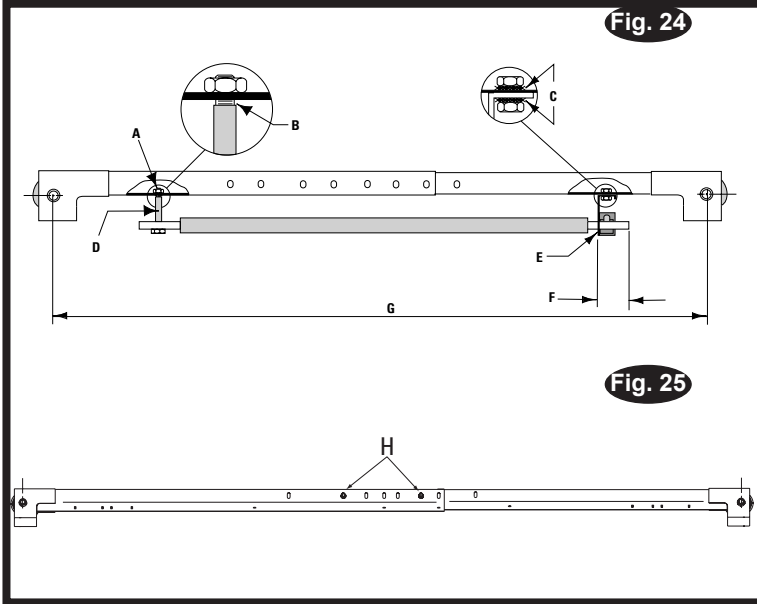

Fig. 24/25 Detail
3. Insert M6*70 HHCS through pivot hole in end of switch bar. Insert opposite end of bar through slot in switch mounting bracket Fig 24. Then secure HHCS and Switch Bar to overhead as shown, using (2) 19mm spacer and M6 Lock Nut. Tighten Hex bolt leaving 1.6mm gap between the spacer and the overhead assembly. Fig. 24